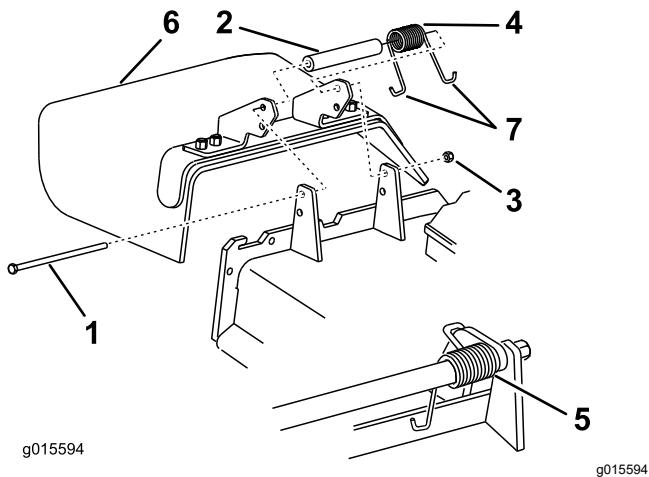

Figure 51
3. Remove the locknut, bolt, spring, and spacer holding the deflector to the pivot brackets (Figure 51).
4. Remove the damaged or worn grass deflector (Figure 51).
Note: Make sure that 1 J-hook end of the spring is installed behind the deck edge before installing the bolt as shown in Figure 51.
8. Place 1 J-hook end of the spring around the grass deflector (Figure 51).